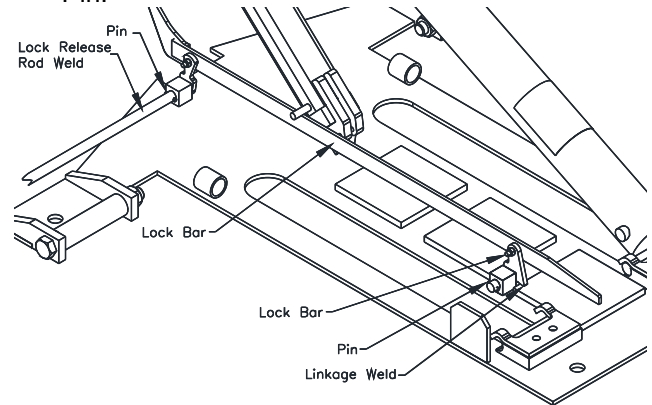

Fig. 6 Lock Release Bar
21. For **Flush Mount only**, slide lock rod support bracket over free end of lock rod before the handle is attached to the end, See **Fig. 6**. Install the handle using the Spring Pin. A/so